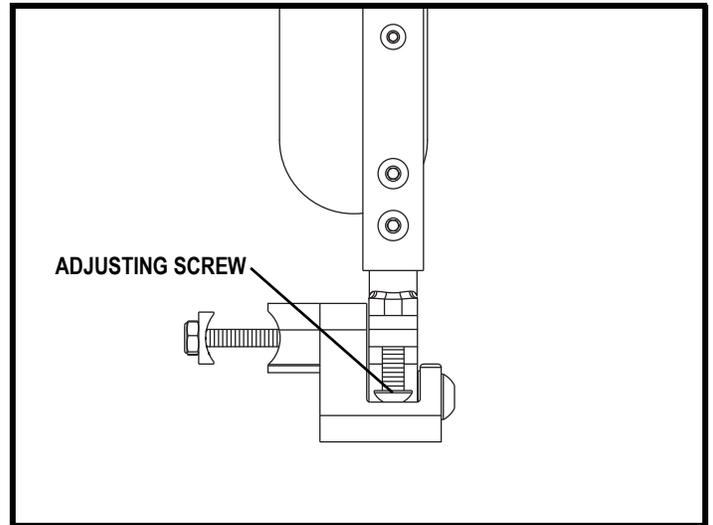

Figure 32. Non-latching Flip-up Armrest Angle Adjustment
2. Turn the adjusting screw to raise or lower the front of the armrest. **See figure 32.**